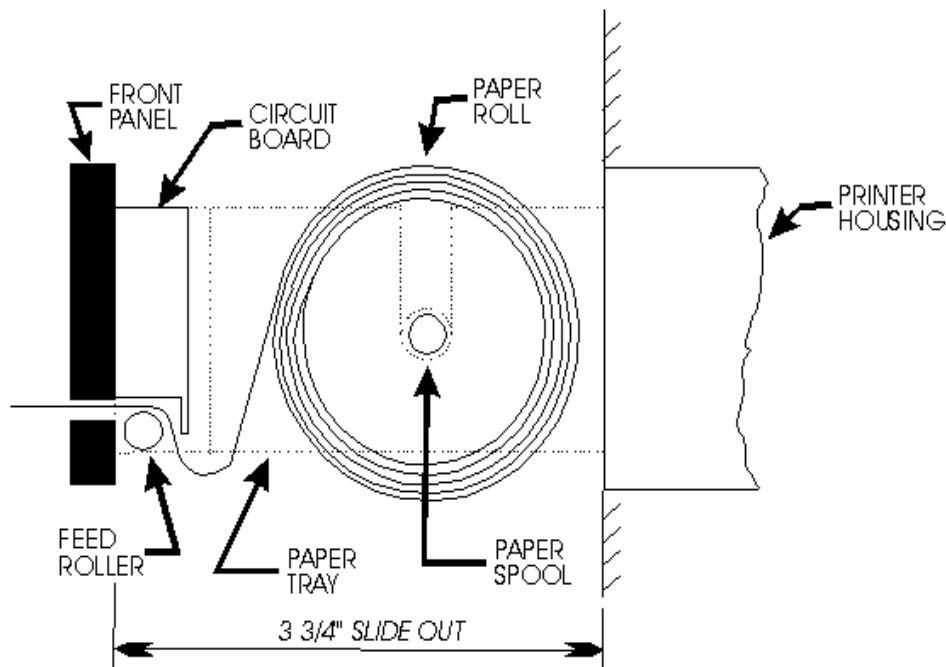

Figure 5.3.3-1 Paper Loading
4. Insert a new roll of paper on the paper holder shaft and guide the edge of the paper into the printer mechanism paper input. Exposed circuit components do not contain perceptible voltages, but care should be taken to avoid damaging delicate electronic components. The paper path illustrated in Figure 5.3.3-1, shows the paper coming off the top of the roll, rather than from the bottom. Feed the paper forward, while pressing the FEED button, until paper feeds correctly through the front of the printer.